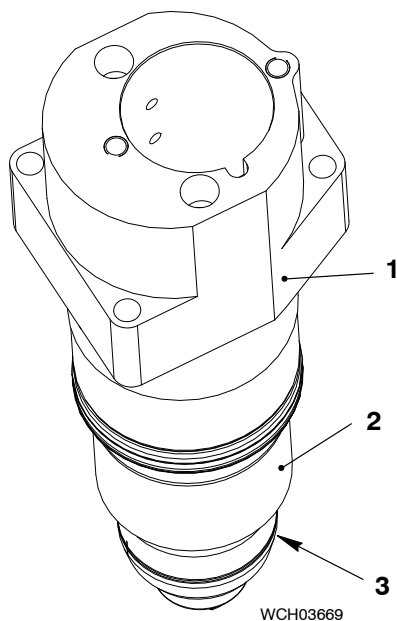

Fig. 9
- 4) Attach the new seal (3, Fig. 9) to the pre-chamber (2).
- 5) Put the pre-chamber (2) in the correct position on the holder (1) with the two M12x200 bolts.